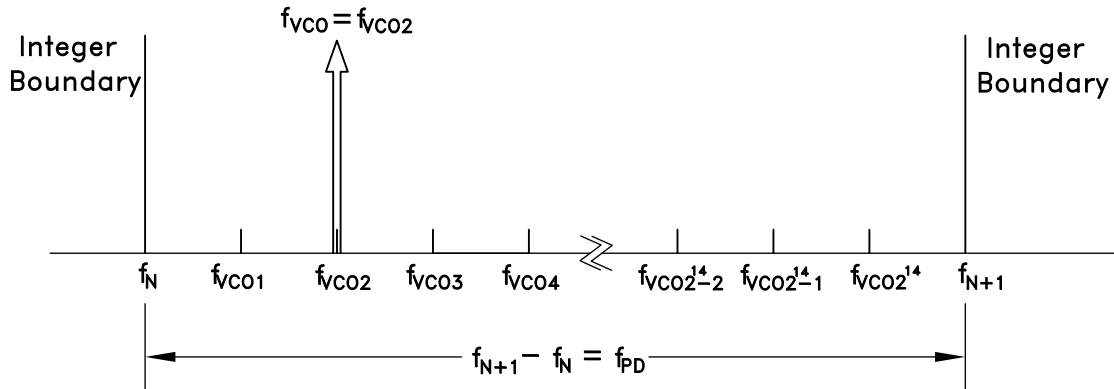

Figure 23. Exact Frequency Tuning
and f_{VCOk} are the channel step frequencies where $0 < k < 2^{24}-1$, As shown in Figure 23.
Some fractional PLLs are able to achieve this by adjusting (shortening) the length of the Phase Accumulator (the denominator or the modulus of the Delta-Sigma modulator) so that the Delta-Sigma modulator phase accumulator repeats at an exact period related to the interval frequency ($f_{VCOk} - f_{VCO(k-1)}$) in Figure 23. Consequently the shortened accumulator results in more frequent repeating patterns and as a result often leads to spurious emissions at multiples of the repeating pattern period, or at harmonic frequencies of $f_{VCOk} - f_{VCO(k-1)}$. For example, in some applications, these intervals might represent the spacing between radio channels, and the spurious would occur at multiples of the channel spacing.
If it is desirable to have multiple, equally spaced, exact frequency channels that fall within the same interval (ie. $f_N \leq f_{VCOk} < f_{N+1}$) where f_{VCOk} is shown in Figure 23 and $1 \leq k \leq 2^{14}$, it is possible to maintain the same integer-N (Reg 03h) and exact frequency register (Reg 0Ch) settings and only update the fractional register (Reg 04h) setting. The Exact Frequency Channel Mode is possible if (EQ 17) is satisfied for at least two equally spaced adjacent frequency channels, i.e. the channel step size.
To configure Hittite PLL for Exact Frequency Channel Mode, initially and only at the beginning, integer (Reg 03h) and exact frequency (Reg 0Ch) registers need to be programmed for the smallest f_{VCO} frequency (f_{VCO1} in Figure 23), as follows:
1. Calculate and program the integer register setting $\text{Reg } 03h = N_{INT} = \text{floor}(f_{VCO1}/f_{PD})$, where f_{VCO1} is shown in Figure 23 and corresponds to minimum channel VCO frequency. Then the lower integer boundary frequency is given by $f_N = N_{INT} \cdot f_{PD}$.
$$\text{Reg } 04h = N_{FRAC} = \text{ceil}\left(\frac{2^{24}(f_{VCOk} - f_N)}{f_{PD}}\right) \quad \text{where } f_N = \text{floor}(f_{VCO1}/f_{PD}), \text{ and } f_{VCO1}, \text{ as shown in } \text{Figure 23}, \text{ represents}$$
4. To change from channel 1 ($f_{VCO1} = 2000.2$ MHz) to channel 2 ($f_{VCO2} = 2000.3$ MHz), only Reg 04h needs to be programmed, as long as all of the desired exact frequencies f_{VCOk} (Figure 23) fall between the same integer-N boundaries ($f_N < f_{VCOk} < f_{N+1}$). In that case